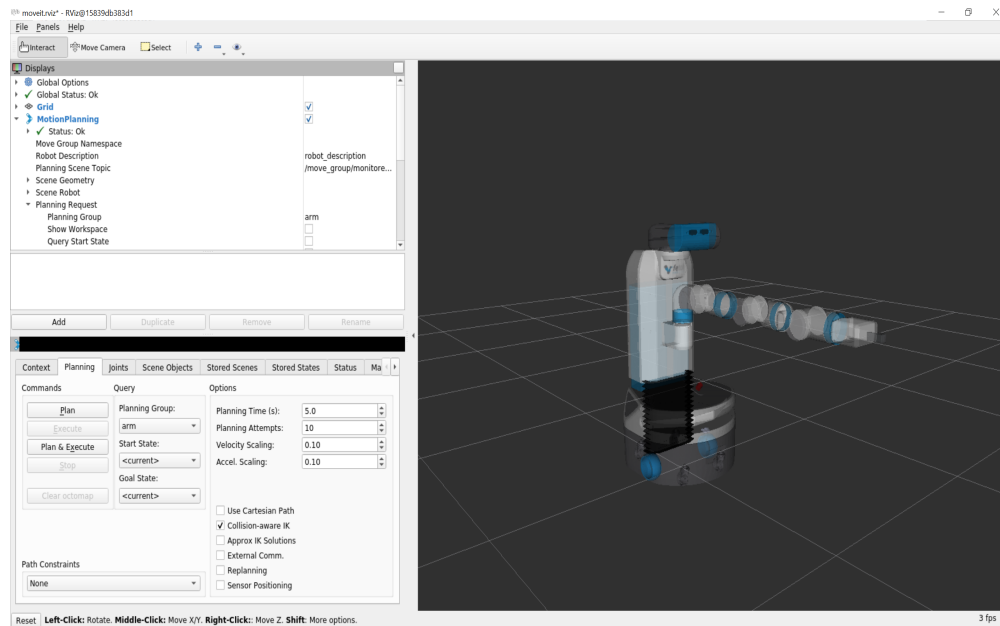

Figure 5: The Moveit Rviz Interface by launching *roslaunch fetch_moveit_config demo.launch*.
- Test your installation by running *roslaunch fetch_moveit_config demo.launch* according to <https://docs.fetchrobotics.com/manipulation.html>. You shall see the Rviz interface as in Figure 5. After the testing, you can kill this launch.